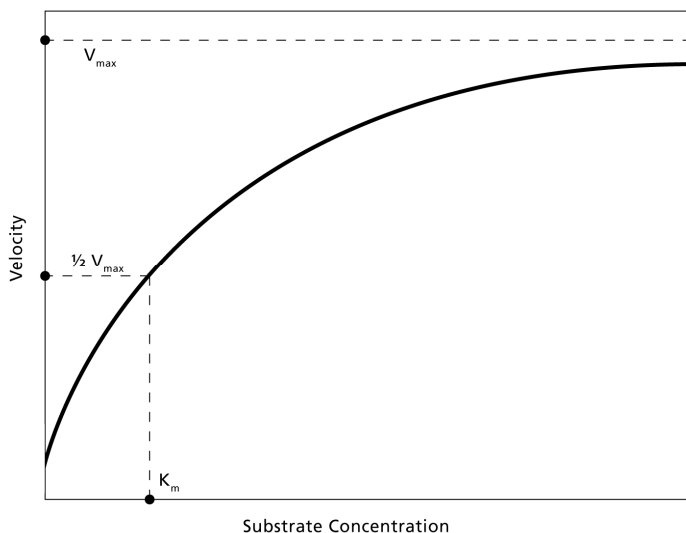

Figure 1
In a case where the enzyme concentration is kept constant and the concentration of substrate is increased, the velocity of the reaction will increase rapidly until $\frac{1}{2}$ of the enzyme becomes saturated with substrate. At this point, the velocity of the reaction will not increase as rapidly. Eventually, the velocity of reaction will approach a constant rate even when the substrate concentration is increased. When the reaction rate ceases to increase, the maximum velocity or V_{\max} for the reaction has been reached. A diagram of this case is presented in Figure 1. Fifty percent or half of the maximum velocity is referred to as $\frac{1}{2} V_{\max}$. The substrate concentration that coincides with $\frac{1}{2} V_{\max}$ is called the K_m or Michaelis-Menten constant. At this concentration, $\frac{1}{2}$ of the enzyme molecules in solution are bound to the substrate. Biochemists use these parameters to characterize enzymes and how enzymes react to different substrates. For example, the K_m is inversely related to enzyme binding affinity for a given substrate. In other words, the smaller the K_m , the greater the binding affinity an enzyme has a substrate.
This exercise is designed to introduce you to the quantitative analysis of enzymes using the enzyme tyrosinase. Tyrosinase is an enzyme that is involved in melanin synthesis, which gives skin its color. Tyrosinase is also involved in the browning of fruits, tubers, and fungi that have been damaged. As shown in Figure 1, in the presence of oxygen (O_2), tyrosinase (E) catalyzes the hydroxylation of tyrosine into the compound 3,4-dihydroxyphenylalanine or DOPA for short. Tyrosinase then catalyzes DOPA into dopaquinone which spontaneously converts into dopachrome. Dopachrome will eventually be turned into melanin. Dopachrome is a colored compound with a peak absorbance at 475 nm that can be monitored using a Spectrometer or Colorimeter.